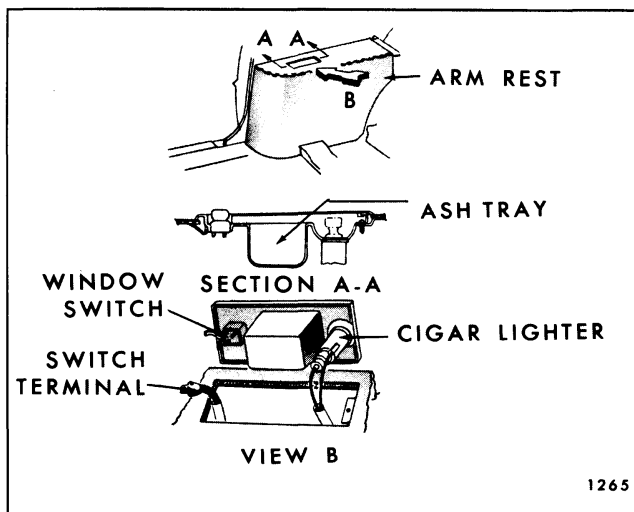

Fig. 6-2-Quarter Arm Rest Ash Tray and Electric Switch Plate (Hardtop Styles)
4. Where present, detach electrical wiring and remove trim assembly (View "B", Fig. 6-2).